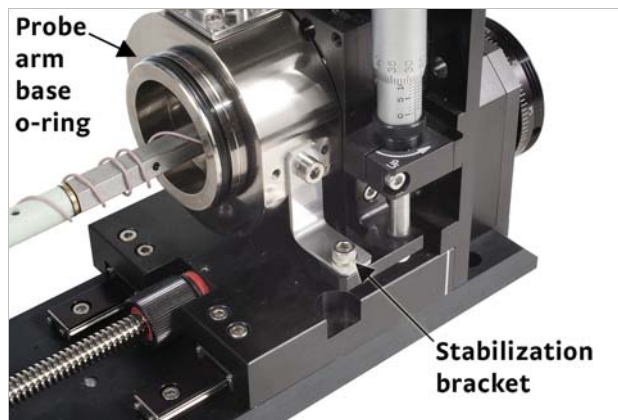

FIGURE 5-14 Orientation of the probe arm base in the z-axis stage and location of the stabilization bracket
1. Insert the probe arm base into the z-axis stage. Orient the probe arm base as shown in FIGURE 5-14, and hold it in place. Precise alignment is not necessary.
3. If you do not have a planarization assembly, using a 3 mm hex driver, tighten the M4 screw to secure the stabilization bracket to the probe arm base (FIGURE 5-14).
6. Clean the o-ring groove in the probe arm base (FIGURE 5-14). Clean, inspect and lightly grease the o-ring with vacuum grease and place it in the groove.